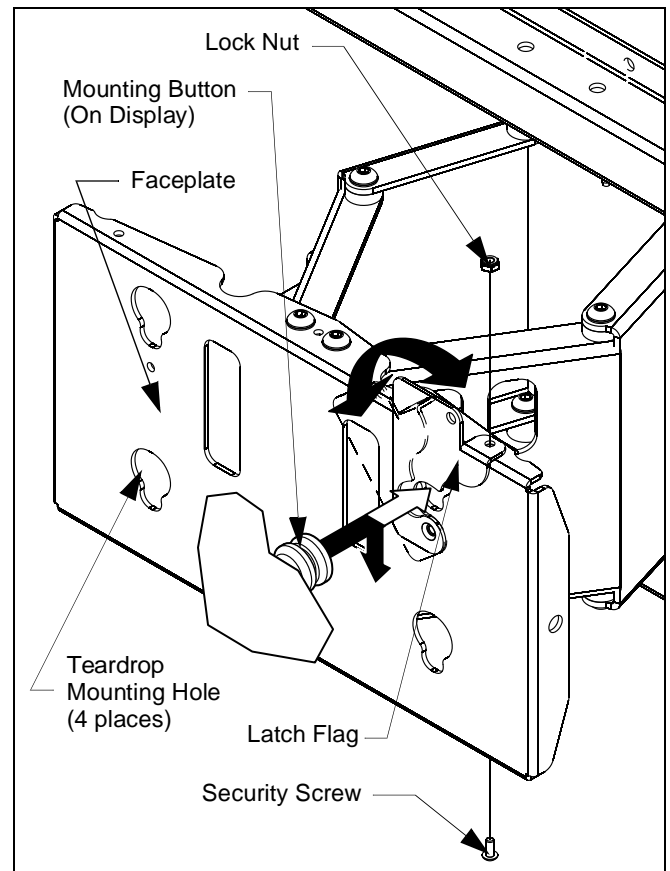

Figure 7: Install Display on Mount Assembly
7. Verify latching flag is open. (See Figure 7)
8. Align mounting buttons on display with teardrop mounting holes in mount faceplate (See Figure 7).
10. Lower display until the recessed area of all four mounting buttons is seated in the lower area of teardrop mounting holes in faceplate. (See Figure 7)
NOTE: If desired and install optional security screw and locknut provided. The display can also be locked in the retracted position by installing the optional locking pin provided.(See Figure 7)